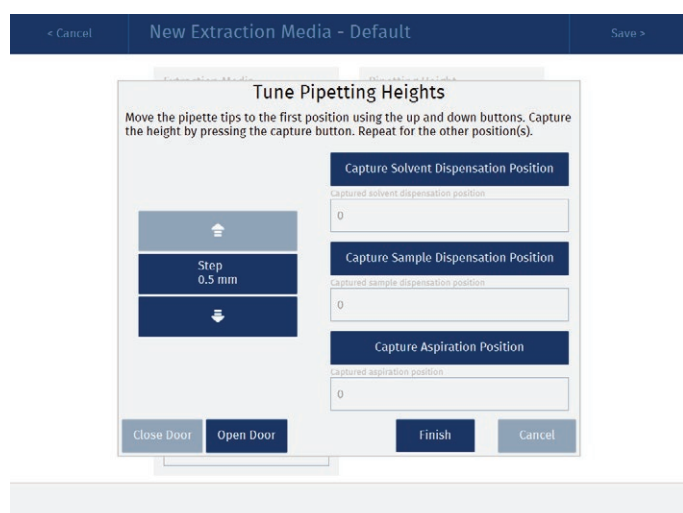

Figure 11. Wizard for setting the pipetting heights for an extraction plate or column rack.
* The pipetting heights can be entered manually or set using a wizard (see Figure 11). To open the software wizard, press **Tune Pipetting Heights....** Note that only one type of pipette tip is required for the tuning of the pipetting heights.